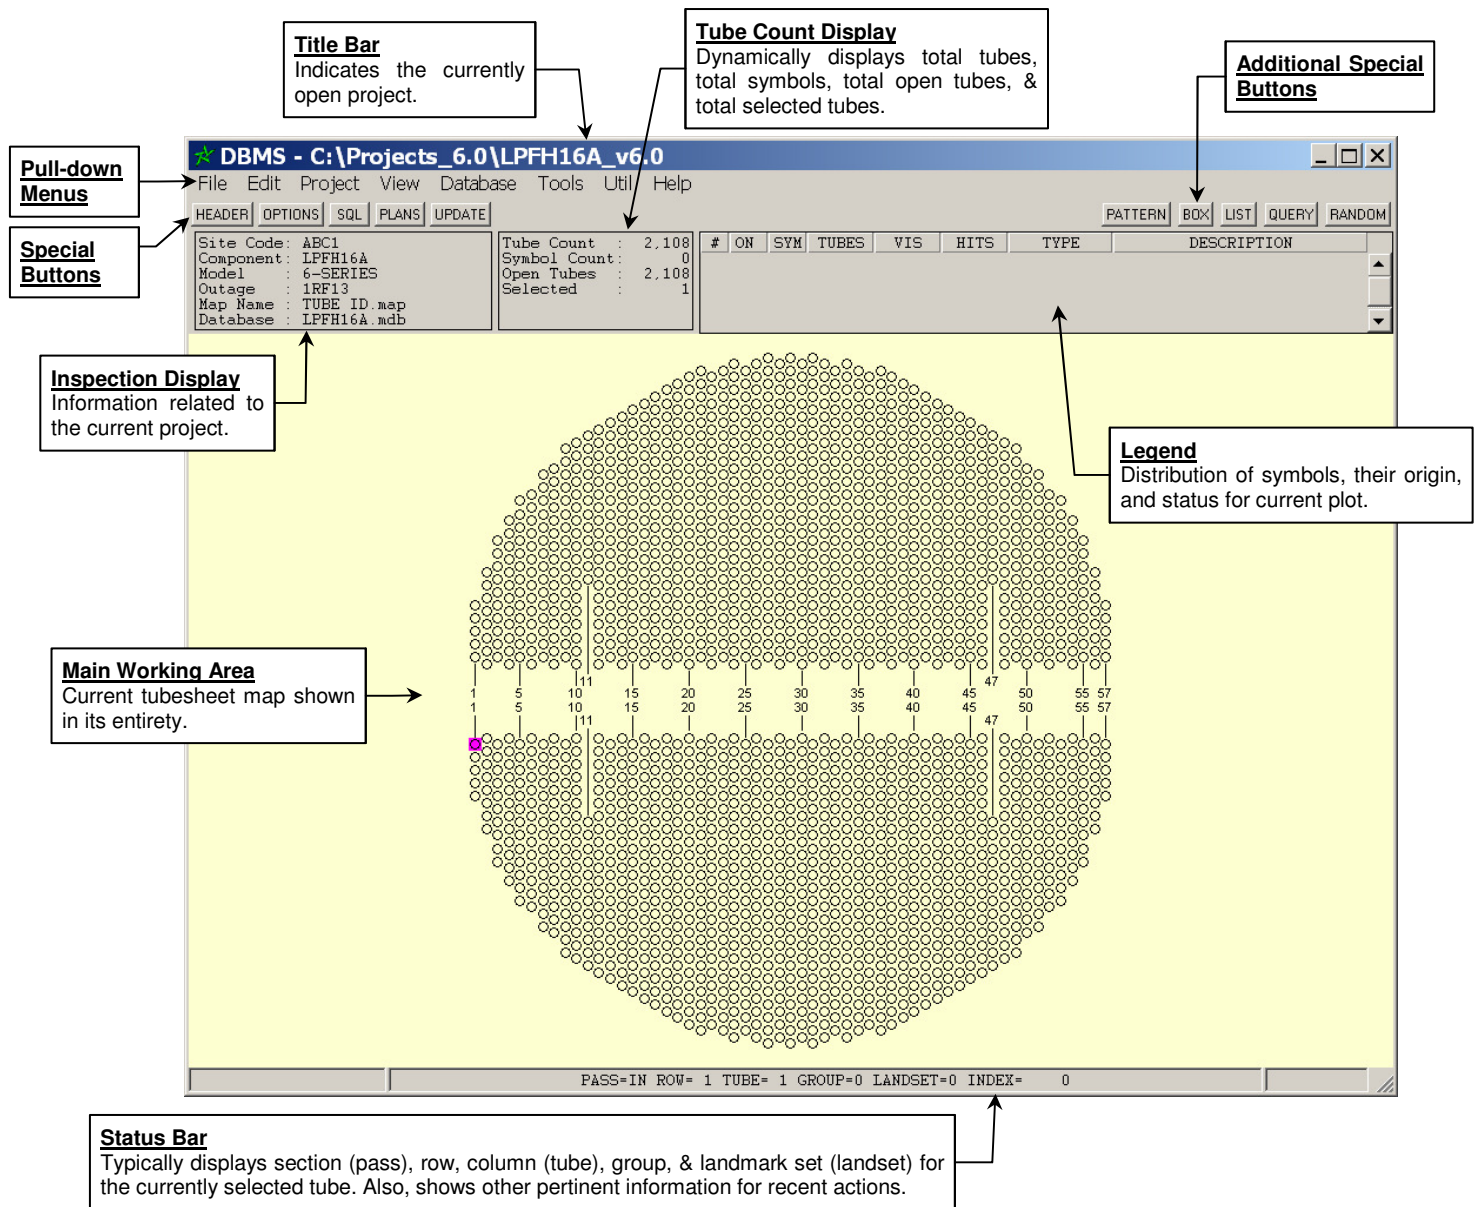

Figure 2. Parts of the Main DBMS Window
Figure 2 points out and offers descriptions of the different areas of the main window. Review to the figure in order to familiarize yourself with the main DBMS window.
- **Database | Open Database** displays an **Open** dialog. Select the desired *mdb* file from those listed in the **[project] \dbms** directory, and then click the **Open** button or simply double-click the filename. Afterwards, the program opens or *connects to* the selected database file, which is displayed in the **Database** field of the **Inspection Display** area of the main DBMS window (see *Figure 2*).
- **Database | Close Database** closes or *disconnects from* the current database. Afterwards, the filename of the database will disappear from the **Database** field of the **Inspection Display** area of the main DBMS window (see *Figure 2*). You do not need to close or *disconnect from* one database to open or *connect to* another. All you have to do is select the other database from either **Database | Open Database** or **File | Recent Databases**.